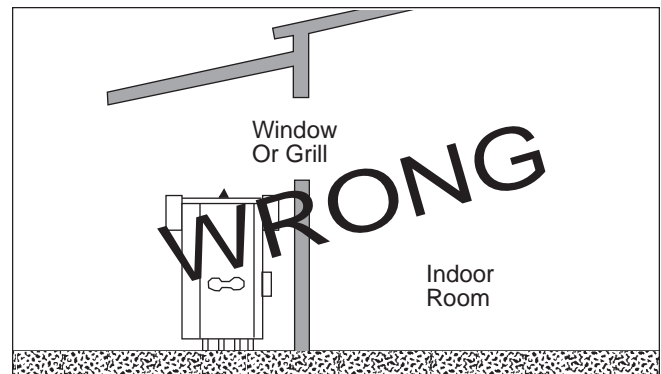

Figure 6. Incorrect Outdoor Installation of Boiler.
- wind conditions are possible, locate the boiler at least three (3) feet from the structures.
- Never install the boiler under any kind of roof overhang. Do not locate the boiler below or adjacent to any doors, windows, louvers, grills, etc. which communicate in any way with an inhabited area of a building. Even though such communication might be through another structure such as a garage or utility room (see Figure 6).